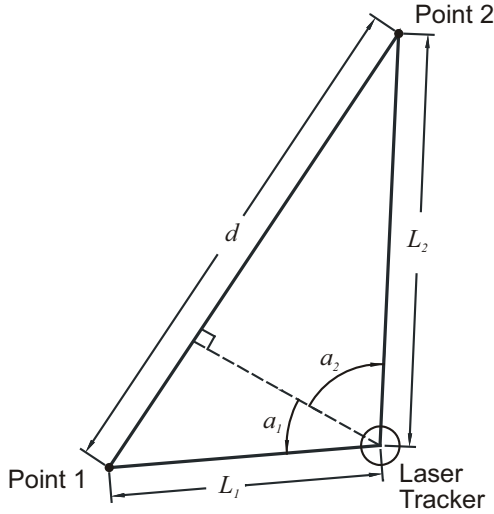

Figure 9-1 Laser Tracker Measuring Head Geometry
The geometrical arrangement of a Laser Tracker Measuring Head that measures the coordinates of points 1 and 2 is shown in Figure 9-1. From these coordinates, the length d is determined. The maximum permissible error (MPE) in this length measurement is the maximum error permitted by the performance verification
The angles a_1 and a_2 are positive in the directions shown in Figure 9-1 and negative in the opposite directions. The quantities e_{R1} , e_{R2} , e_{R0} , e_{T1} , and e_{T2} are calculated using Equations (1) - (3). The subscript 1 refers to path 1 and the subscript 2 refers to path 2. So, for example, $e_{T1} = 36\mu m + L_1 \cdot 6\mu m/m$. The quantities E_{TEMPR1} , E_{TEMPR2} , E_{TEMPT1} and E_{TEMPT2} are calculated using Equations (4) and (5). The quantity ΔT_{AVE} in Equation (4) is the average temperature of the air through which the laser beam passes minus the temperature of the air at the air temperature sensor. For a laser beam that travels through path 2, $E_{TEMPR2} = L_2 \cdot (\Delta T_{AVE2}/^{\circ}C) \cdot (1\mu m/m)$. The quantity $(\partial T/\partial x)_{EFF}$ in Equation (5) is the maximum effective thermal gradient in the direction